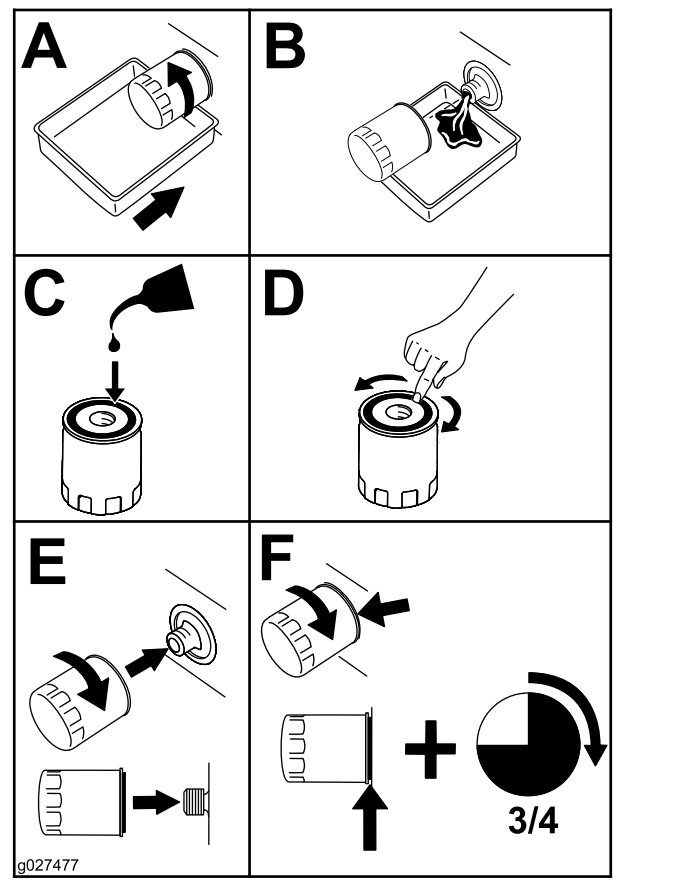

Figure 34
4. Replace the oil filter (Figure 34).